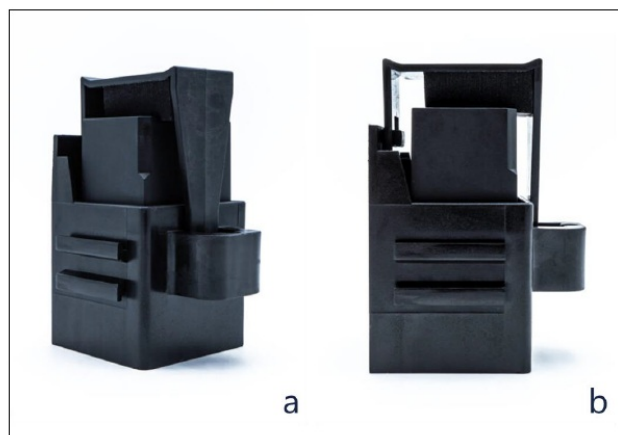

Figure 4: Mounting of the plastic locking bracket (example).
- Press the bracket into the opening at the front until it clicks into place (Figure 4).